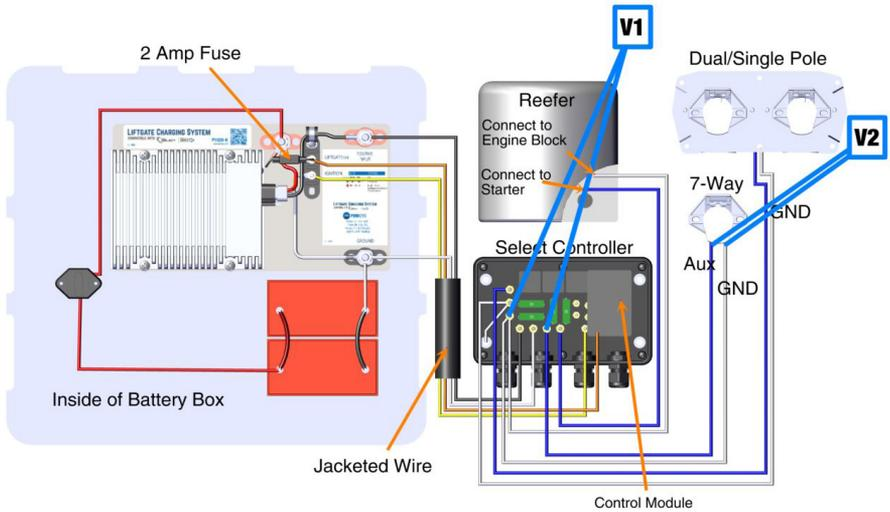

Figure 18
Step 1: With the reefer unit off and the stinger unplugged, plug in the 7-way cord. Start the tractor and let the engine run. Use a voltmeter to measure the voltage between the AUX ground stud and the AUX positive stud inside the Select Controller (see V1 in Figure 18). It should read 13.8 volts or greater. If yes, and the light still is not solid green, call customer service, as the Select Controller or Control Module may be defective. If no, proceed to step 2.
Step 2: With the reefer unit off and the stinger cord unplugged, plug in the 7-way cord. Start the tractor and let the engine run. Use a voltmeter to measure the voltage between the AUX center pin and the top ground pin on the 7-way receptacle on the trailer (see V2 in Figure 18). It should read 13.8 volts or greater. If yes, repair or replace the wiring between the 7-way receptacle on the trailer and the Select Controller (check the wiring, connections, and fuses, if existing, in the 7-way nose box). If no, measure the voltage at the truck battery. If the reading is greater than 13.8 volts, the issue is in the wiring from the 7-way to the truck. If the reading is less than 13.8 volts, the issue is the charging system of the truck; allow the battery to charge or repair the charging system on the truck.